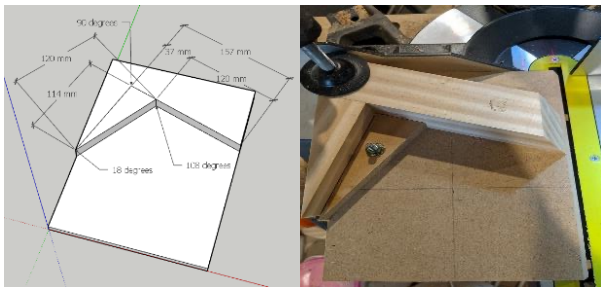

Figure 3.2 Pentagon cutting jig
Step 1: Cut the 16 mm MDF sheet into twelve equal squares of 200 mm (L) x 200 mm (W).
Step 2: Figure 3.2 presents the jig that was built to cut out the twelve pentagon shapes. Remove the small triangular piece on the jig and cut one of the sides on each of the twelve squares in Step 1. Similar jigs could easily be setup for a saw table, router table or band saw.